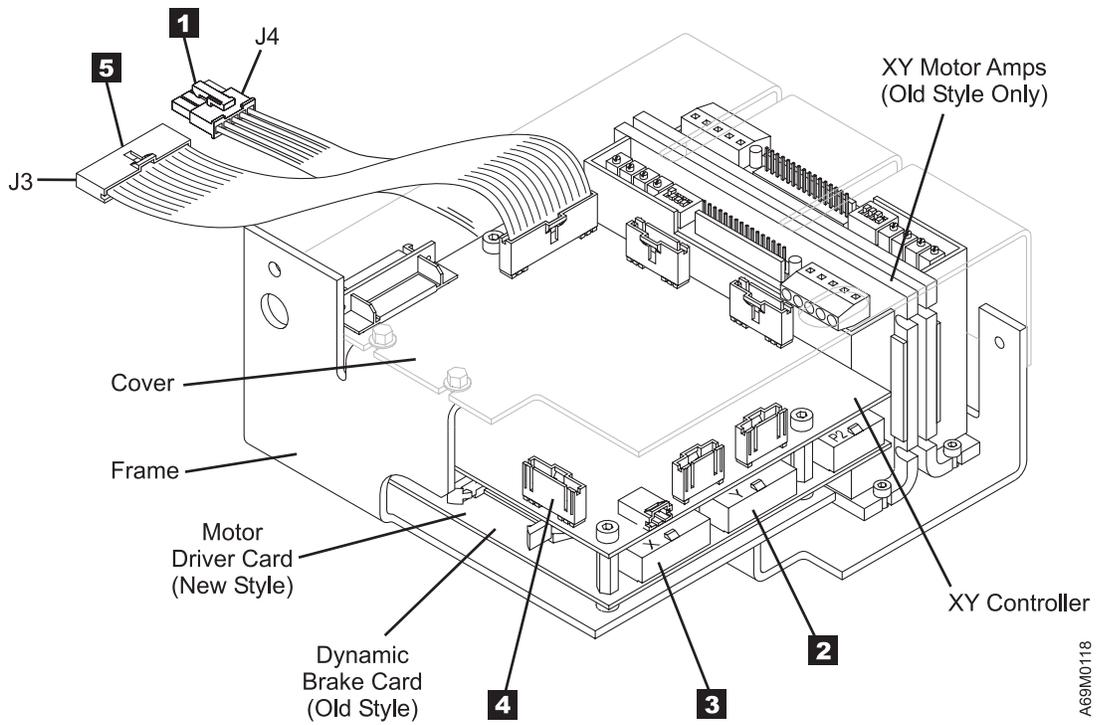

Figure 98. MDA Cabling. (Shown from front, with phantom view of cover, for clarity)
4. Refer to Figure 98 on page 567 and remove five cables **1** through **5**, attached to the MDA.